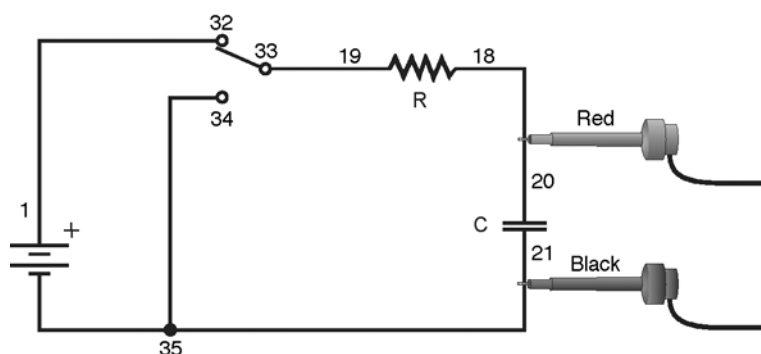

Figure 1
1. Connect the circuit as shown in Figure 1 above with the 10 μF capacitor and the 100 $\text{k}\Omega$ resistor. Record the values of your resistor and capacitor in your data table, as well as any tolerance values marked on them.